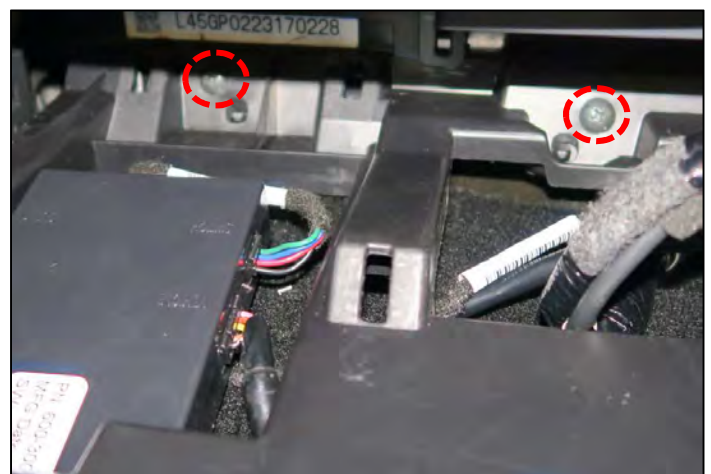

Figure 33
34. Remove the (2) screws from the front of the console finisher. (Figure 33)